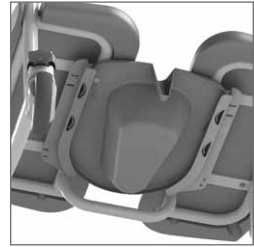

Figure 7 Bedpan.
- The bedpan or bucket is slid in from the back of the chair (See figure 7).